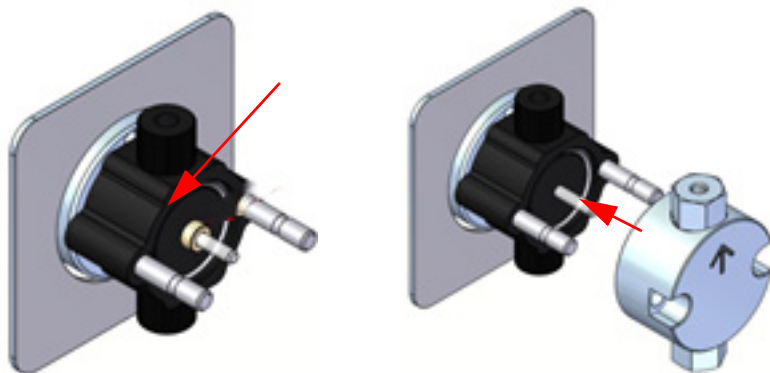

Figure 6-16 Reinstalling the pump head
15. Place the seal back-up washer on the piston. Replace the pump head. Make sure that the inlet check valves are on the bottom and the outlet check valves are on top (Figure 6-16).